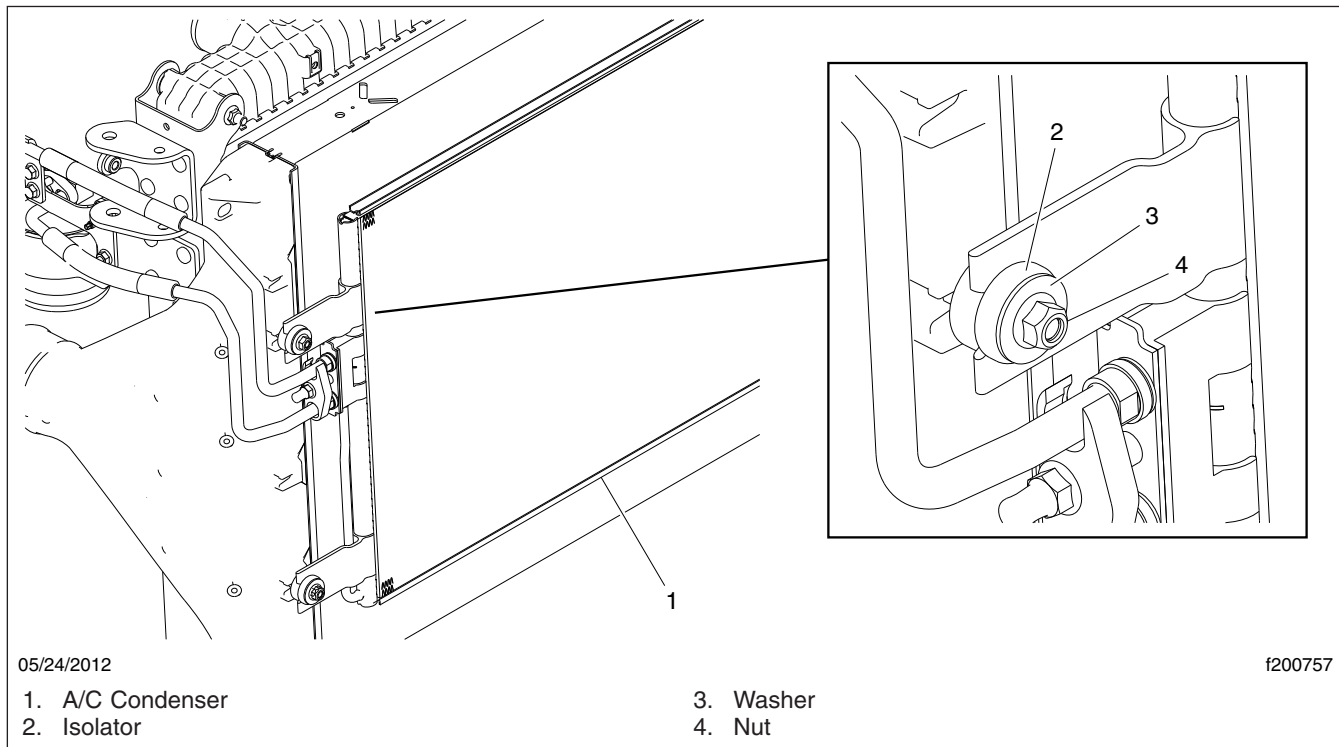

Fig. 3, A/C Condenser Installation
- 12.2 Unbolt the A/C condenser from the CAC. See **Fig. 3**.
- 36.1 Move the condenser into position and secure it temporarily. See Fig. 3.